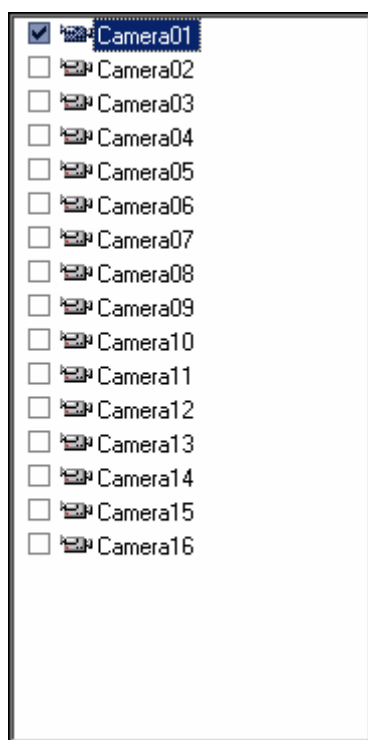

Fig. 88 Camera on the "Video output" tab
SISTORE MX switches at a defined interval between the cameras that are entered in the camera list and selected (see Fig. 88).
7. If you have selected **Static** or **Periodic** mode, select one or several cameras in the cameras list. (See Fig. 88)